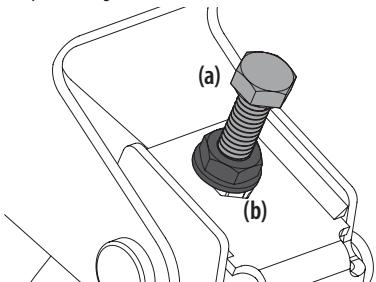

Figure 39
- Locate the adjustment bolts (a) on the left and right side of the deck. See Figure 39.
- Loosen, but do not remove, the jam nuts (b) on the adjustment bolt. Adjust either the right or left adjustment bolt up or down as necessary until the side-to-side heights are equal. See Figure 39.
- When proper adjustment is achieved, re-tighten the jam nuts (b). Tighten to 57 ft-lbs (77 N-m). See Figure 39.